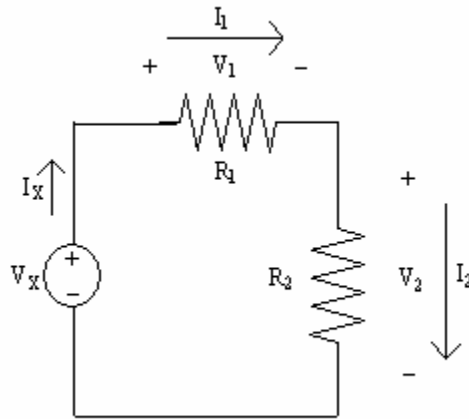

Figure 16. Simple series circuit
- a. Build the circuit shown in figure 16 on your breadboard. Set V_x to be 5 V (using the DC power supply VI) and $R_1 = R_2 = 1\text{ k}$.